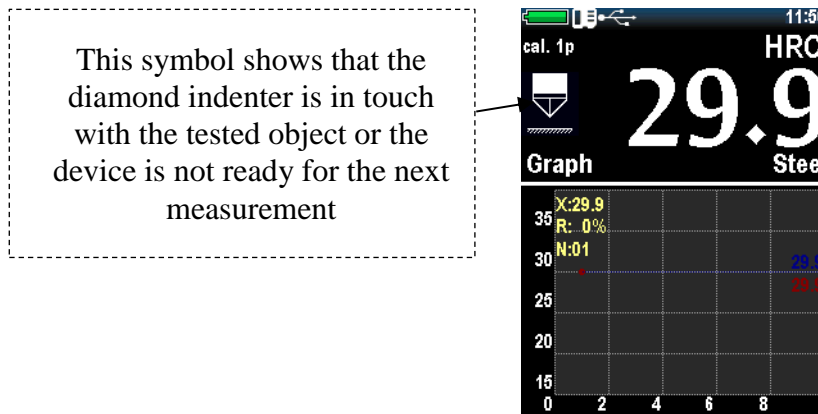

Figure 2.10 - Display after measurement
- The display shows the value of hardness (Fig. 2.10). The measurement result is displayed on the display until the next measurement.